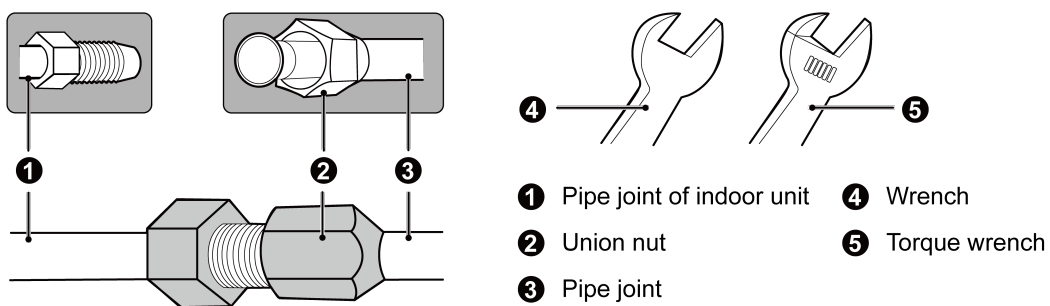

Fig 4.2.1
- (1) Direct the flaring of copper pipe to the center of screwed connection and then screw the flaring nut tight as shown in Fig 4.2.1.
- (2) Use a torque wrench to tighten up the flaring nut until the wrench gives out a click sound.